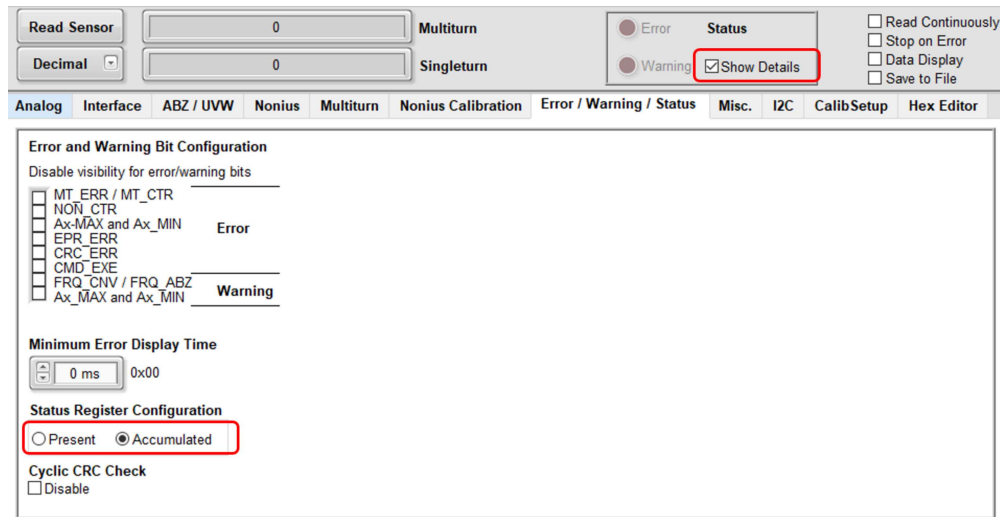

Figure 18: iC-MU GUI, <Error/Warning/Status> tab settings
19. After successful Nonius calibration select the <Error/Warning/Status> tab (Figure 18) and perform the following: